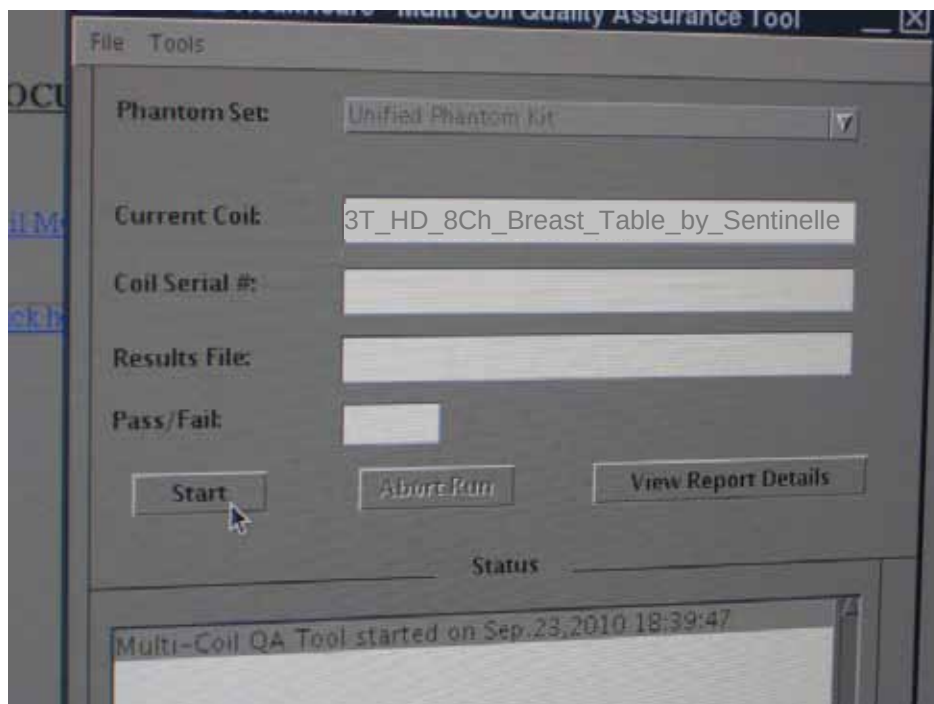

Figure 62: Screen Capture – MCQA Tool Start
6. Do not start a new patient; open the Tools box, and start the System Browser. Select the top tab marked 'Image Quality.' In the side menu, select 'Multi-Coil QA Tool', then 'Click here to start this tool.' The program shown in Figure 62 will start: